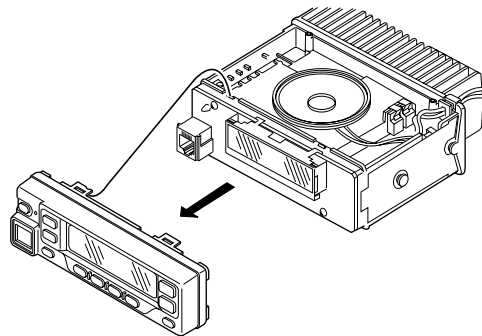

Fig. 12 / 图 12
1. Remove the control panel and the TX-RX unit (B/2) control section. (Fig. 12)
1. 取下控制面板和发射-接收(B/2)单元控制部。(图12)